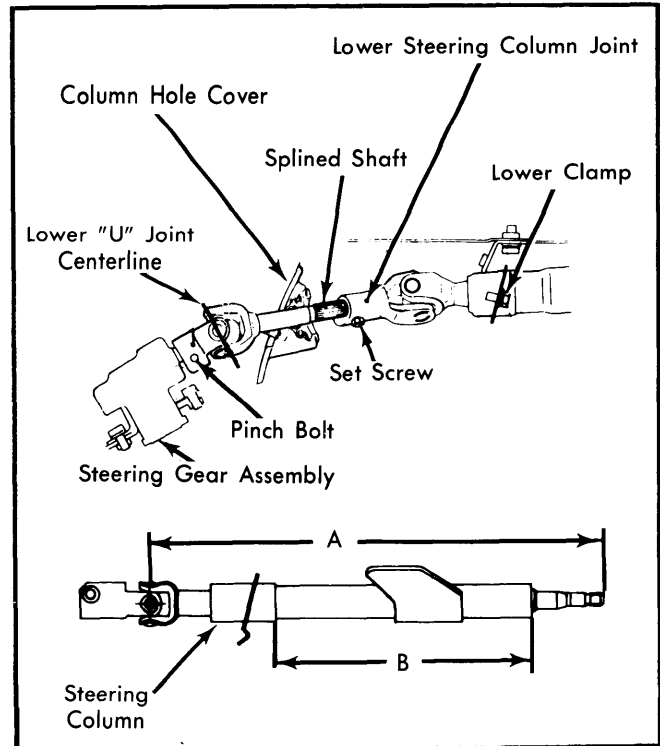

Fig. 1 Datsun 310 Steering Column Assembly
**3)** If vehicle has been involved in a collision, check steering column dimensions "A" and "B". Fig. 1. Dimension "A" should be 24.04-24.16" (610.7-613.7 mm). Dimension "B" should be 16.56-16.67" (420.5-423.5 mm). If either dimension is not within specifications, replace steering column assembly.